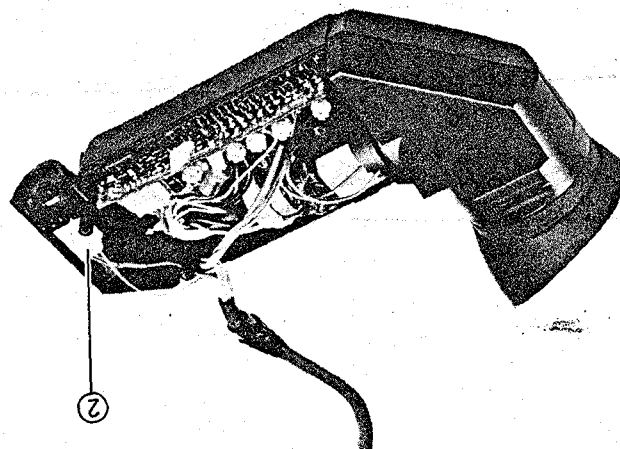

Fig. 2-141 Mic Jack Circuit Board Removal
2. Disconnect connector CN023. (See Fig. 2-141)